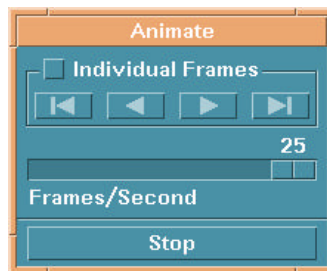

Figure 5.9.2 Animate
- Select PLAY. The tools with defined velocity will move and a dialog window (Figure 5.9.2) is displayed to allow the user to change the play mode.